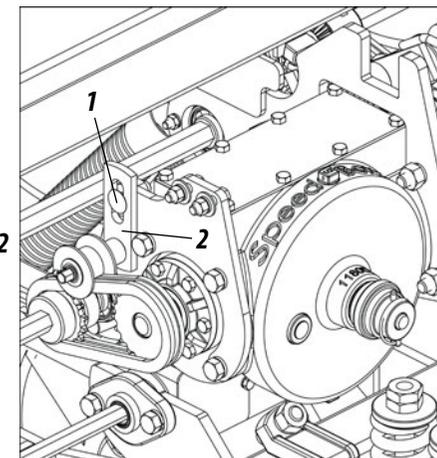

Figure 52
01 - Loosen the screw (1), slide the tensioner up to the desired position. Then, retighten the nut, as in figure 52.